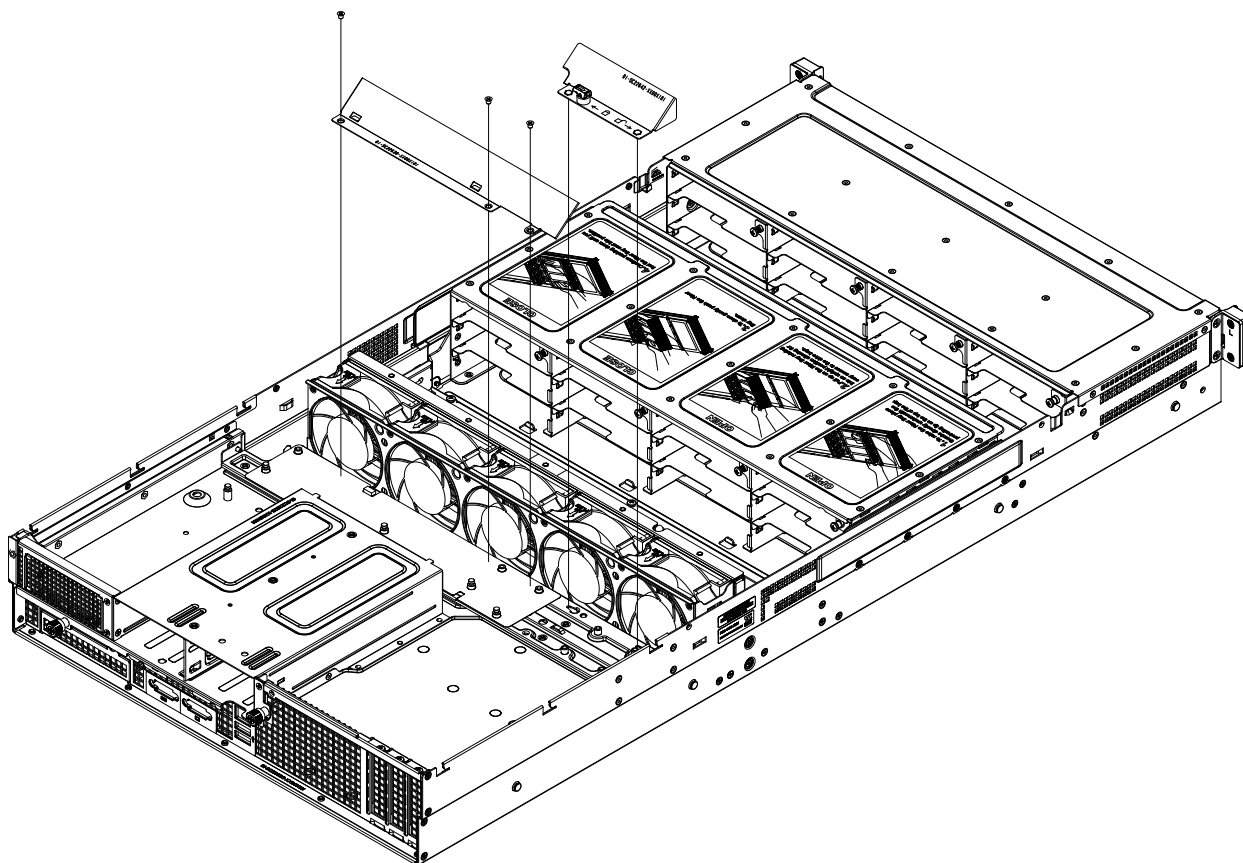

Figure 3-13. Air Shroud Installation
3. Place the smaller air shrouds. (Figure 3-13) Align the mounting holes in the air shroud with those in the chassis and secure them with the three screws provided with the air shroud.